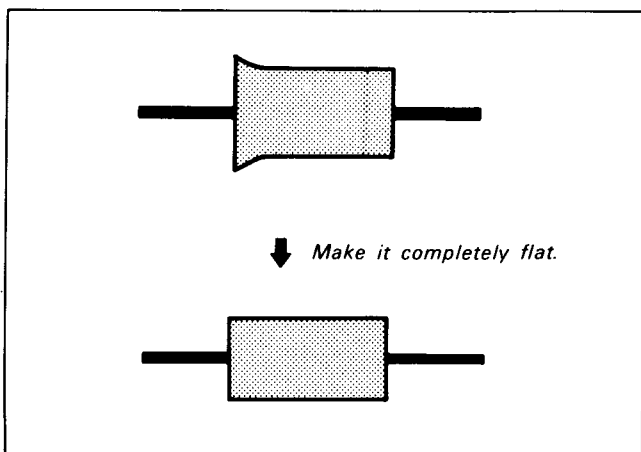

Fig. 8-77.
- 6) Flatten the waveform with No.3 guide. (Fig. 8-77)